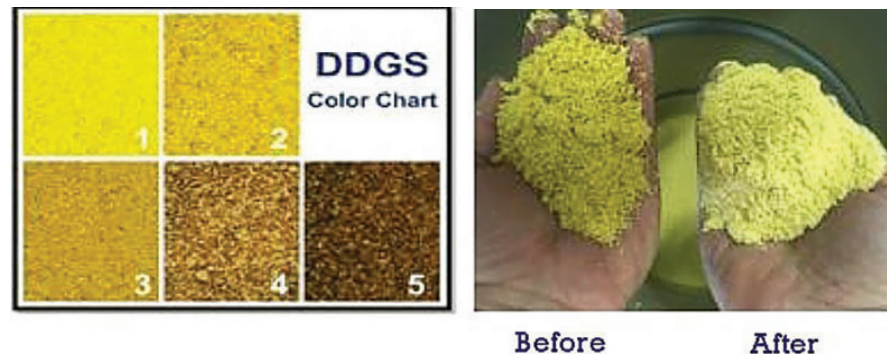

Figure 10: Color chart and dry distiller grain solids before and after LP flash drying
**Improved product quality:** The lower drying temperature allows for a much gentler drying process. As an example, for DDGS (dry distiller grain solids) overheating causes darkening, burned flavor and smell. The cause is the Maillard reaction of amino acids with reducing sugars above 280° F rendering amino acids undigestible. With the continuous LP flash drying technology, the drying temperature can be adjusted significantly below 280° F (Figure 10).